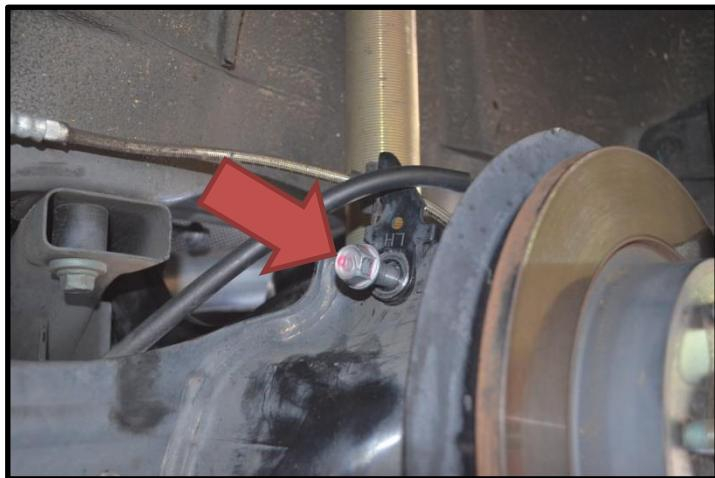
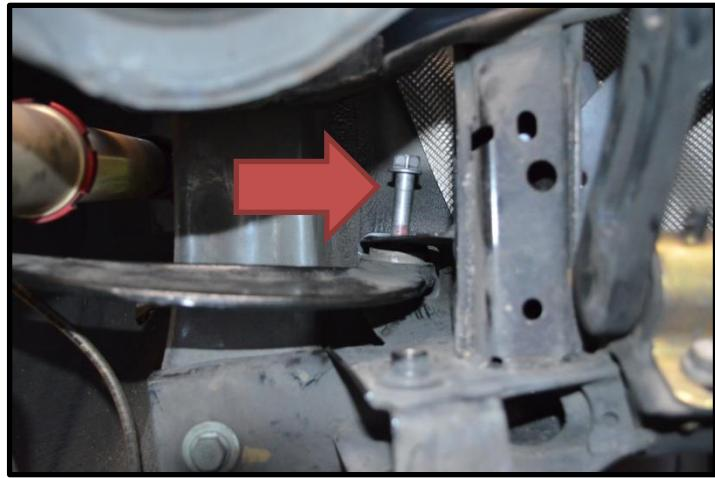

Figure 1b
Figure 1c
- d) Locate the upper and lower bolts that attach the camber arm in place and remove with a 17mm end wench (upper) and socket (lower). Figure 1b shows the lower bolt inside the wheel well and Figure 1c shows the upper bolt seen from under the car.
- d) **Locate the upper and lower bolts that attach the camber arm in place and remove with a 17mm end wrench (upper) and socket (lower).** Figure 1b shows the lower bolt inside the wheel well and Figure 1c shows the upper bolt seen from under the car.